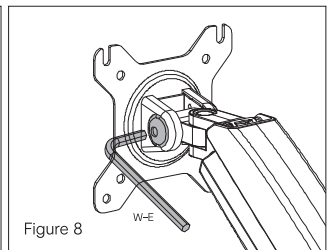

Figure 8
- › Using a hex wrench (W-E), adjust screw to secure the monitor mount to the desired tilting position (see Figure 8).